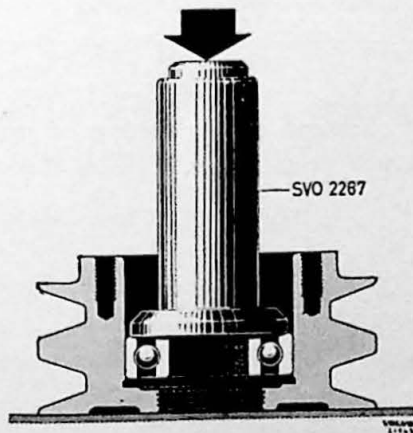

Fig. 1-137. Fitting rear bearing in pulley.
2. Use tool SVO 2267 to press the rear bearing in the pulley. See Fig. 1-137.